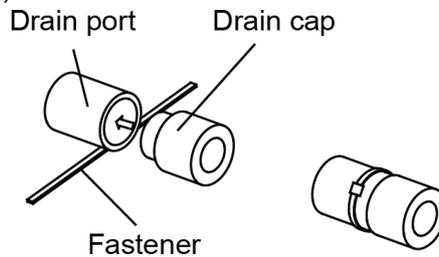

Figure 3-1-12
- (7) When the unit is shipped from the factory, the drain port is defaulted to be the one on the left side (electric box side), the port on right side has been plugged.
- (8) When using the drain port on the right side of the unit, reinstall the drain cap to the left side drain port (Figure 3-1-12).